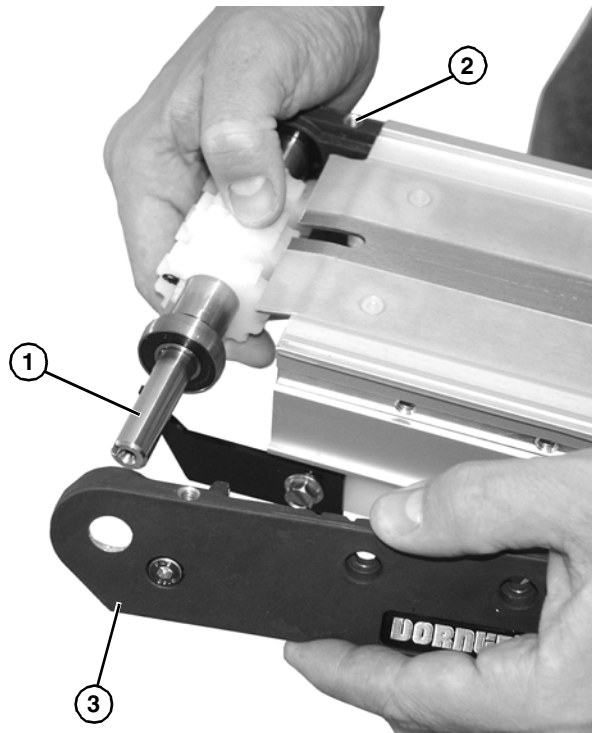

Figure 44
3. Install pulley assembly (**Figure 44, item 1**) on conveyor head plate (**Figure 44, item 2**) and install opposite end head plate (**Figure 44, item 3**).